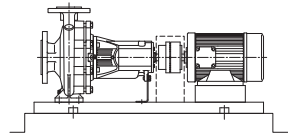

Fig. 4: Installing the pump on a base
**Wilo recommends installing the pump unit on a stable, flat concrete base, which can support the unit long-term (see fig. 4). This would prevent vibrations from being transmitted.**